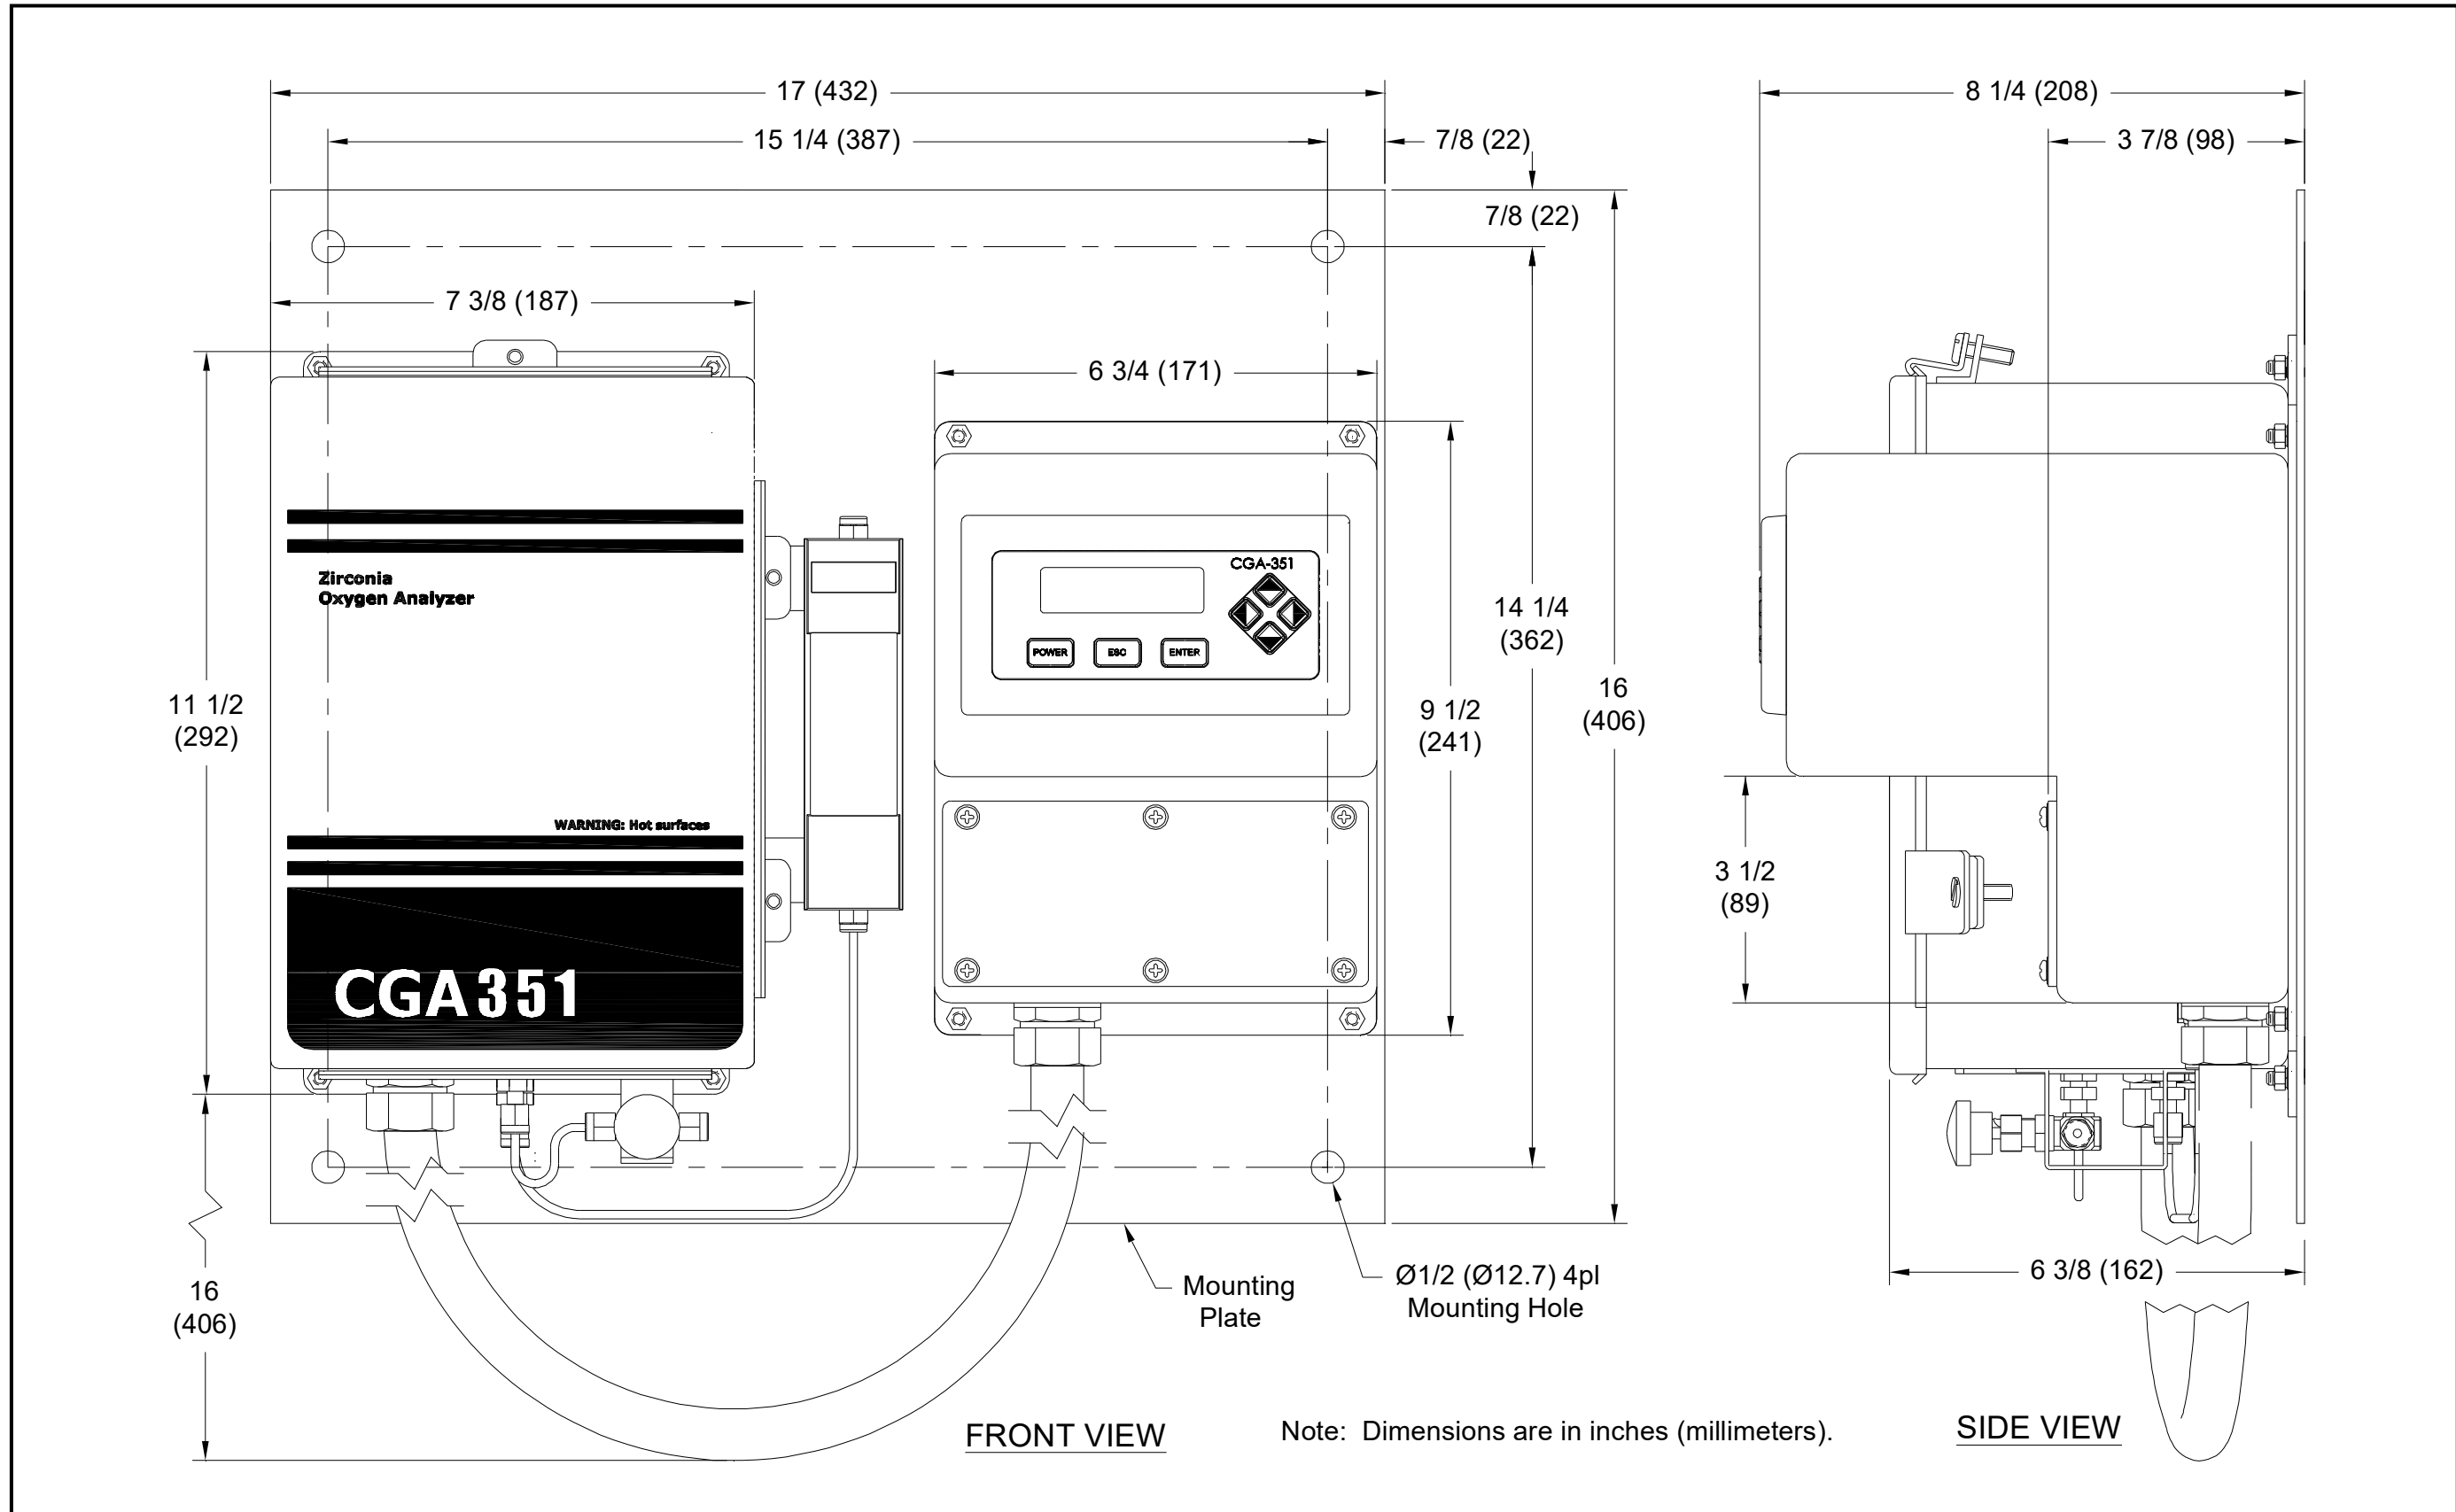

Figure 5: CGA 351 Mounting Dimensions
Refer to Figure 5 on page 13, and complete the following steps to mount the CGA 351:
2. Using the mounting dimensions shown in Figure 5 on page 13, locate and prepare four (4) mounting holes or two (2) horizontal mounting rails on the vertical surface.
3. Secure the system to the mounting surface with four (4) sets of mounting hardware. Be sure that the enclosures are in a vertical position, with the inlet/outlet connectors on the bottom.
See Figure 5 on page 13, and complete the following steps to connect the sample system to the analyzer: